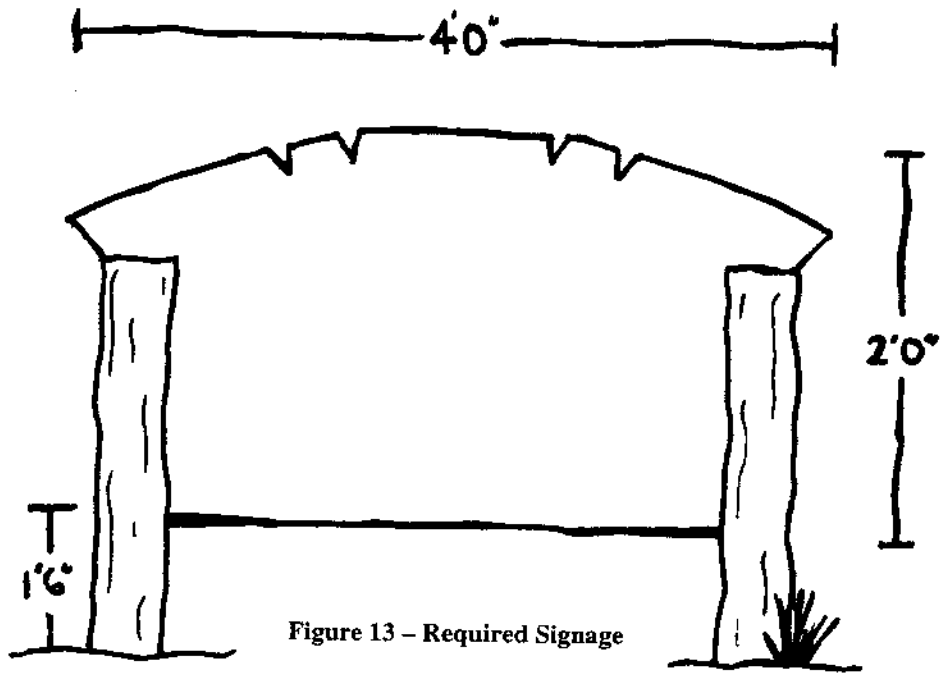

Figure 13 – Required Signage
- Figure 13 - Required Signage